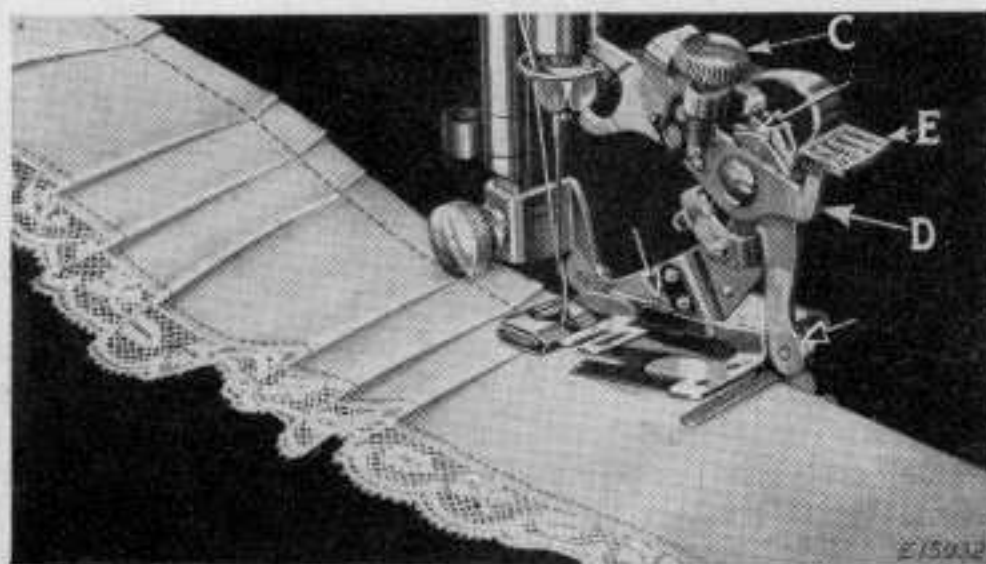

FIG. 58
The ruffler can be adjusted for group plaiting by lifting the adjusting lever (E, Fig. 58) and moving
it to the right so that the top of the projection (D, Fig. 58) enters the small slot indicated by the star on the adjusting lever. This should be done at the points where you wish to make the space between the plaits. The ruffler will then stop and plain stitching will be made. When the desired space has been made, adjust the lever (E) so that the projection (D) enters either the slot marked "6" or the slot marked "12." By alternately making groups of plaits and plain spaces, as shown in Fig. 58, very attractive work can be produced.
Occasionally apply a drop of oil to the working parts of the ruffler at each of the places indicated by the unlettered arrows in Fig. 58. After oiling, operate the ruffler on a waste piece of material to prevent the oil soiling the work. If the ruffler does not plait evenly, a drop of oil may remedy the trouble.